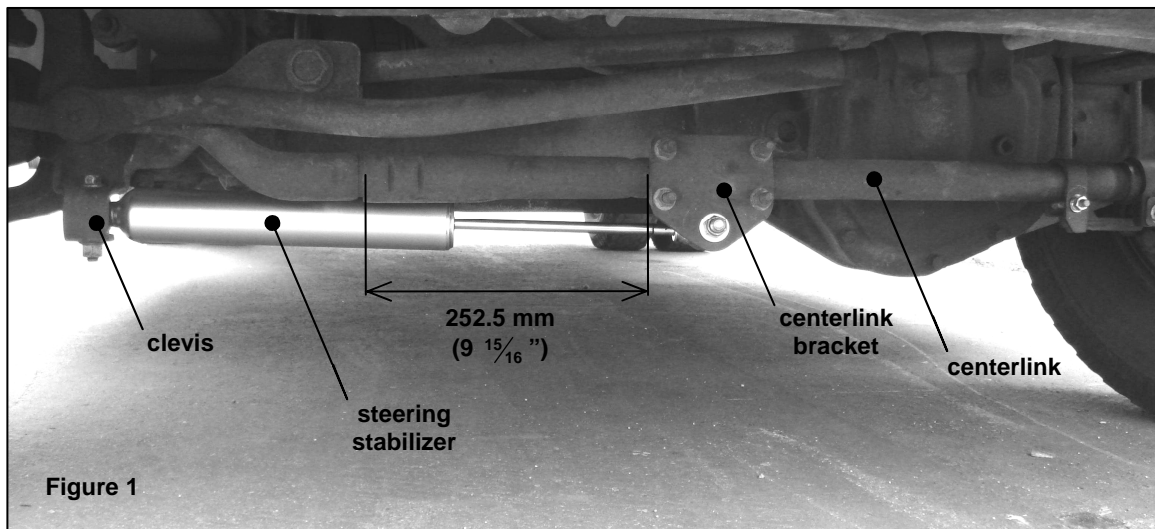

Figure 1
3. Toward the left side of the centerlink (as viewed from the front of the vehicle) there is a distinct shoulder beside two indentations. Using a tape measure, determine the distance from the left edge of the centerlink bracket to this shoulder on the centerlink. This dimension should be approximately 252.5mm (9 ¹⁵/₁₆ "). See Figure 1. If the bracket on the centerlink is not in this location then continue to Step 4, otherwise, skip to Step 5.
5. Install the stabilizer with the open bushing end into the clevis on the axle housing and the threaded stud end into the ½" hole on the centerlink bracket. The threaded stud must be pointed toward the front of the vehicle. See Figure 1.